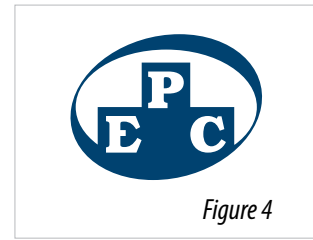

Figure 4
3. Follow the installer prompts to install the USB driver and Field Programming Software. Installer will add desktop icon during installation (see Figure 4).
7. Open Field Programming Software by double-clicking desktop icon (see Figure 4).